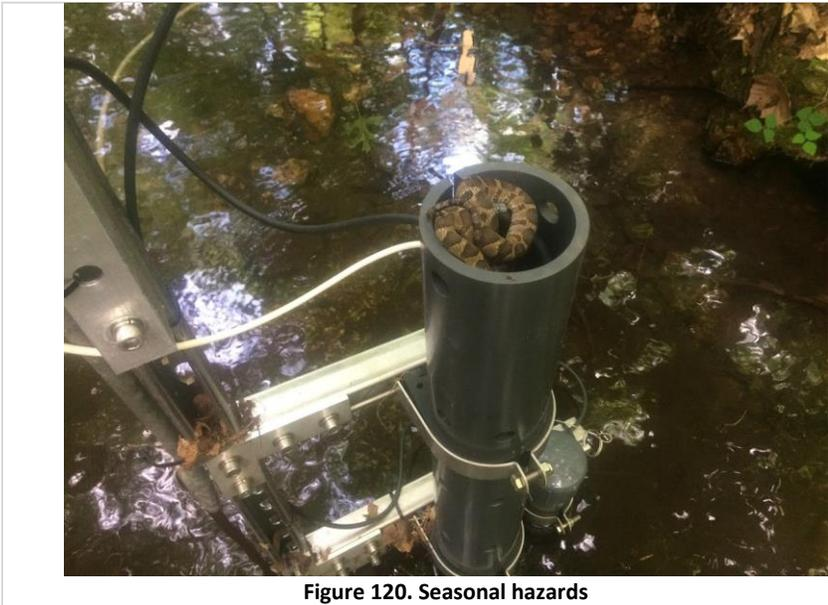

Figure 120. Seasonal hazards
**SCENARIO 4** | Seasonal hazards (**Figure 120**) vary from site to site. Consult the NEON program Safety office and AIS science staff for guidance.